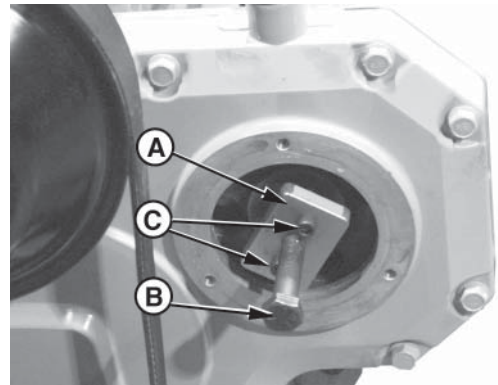

Figure 22 Reproduced by permission of Deere & Company, c.2005. Deere & Company. All rights reserved.
6. Attach JDG670A Drive Gear Puller (Figure 22-A) to injection pump drive gear as shown.
7. Evenly tighten the two 6 mm, Grade 12.9 screws (threaded in drive gear) and snugly tighten center forcing screw (Figure 22-B) against end of pump shaft.
8. Tighten center forcing screw until pump drive gear is free from tapered shaft. Remove JDG670A puller (Figure 22-A) and screws from drive gear.